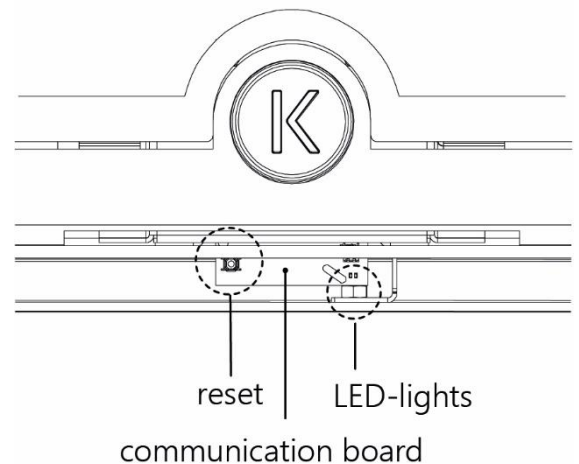

Figure 24: position reset button / LED-lights
1. The green LED light on the communication board (figure 24) flashes. The remote control is not paired with the fireplace.